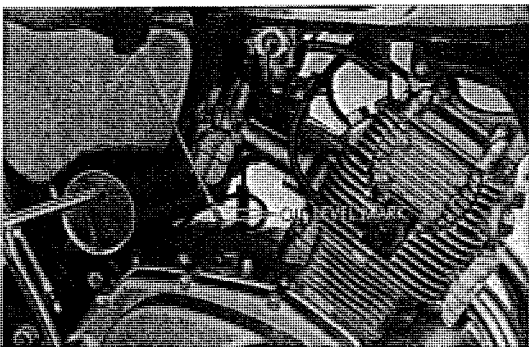

Fig. 6.42 Oil gauge (dip stick)
d. After pouring 1.5 liters (.39 US gal., .33 Imp gal.), check level with dip stick attached to filler cap. (Refer to Fig. 6.42)